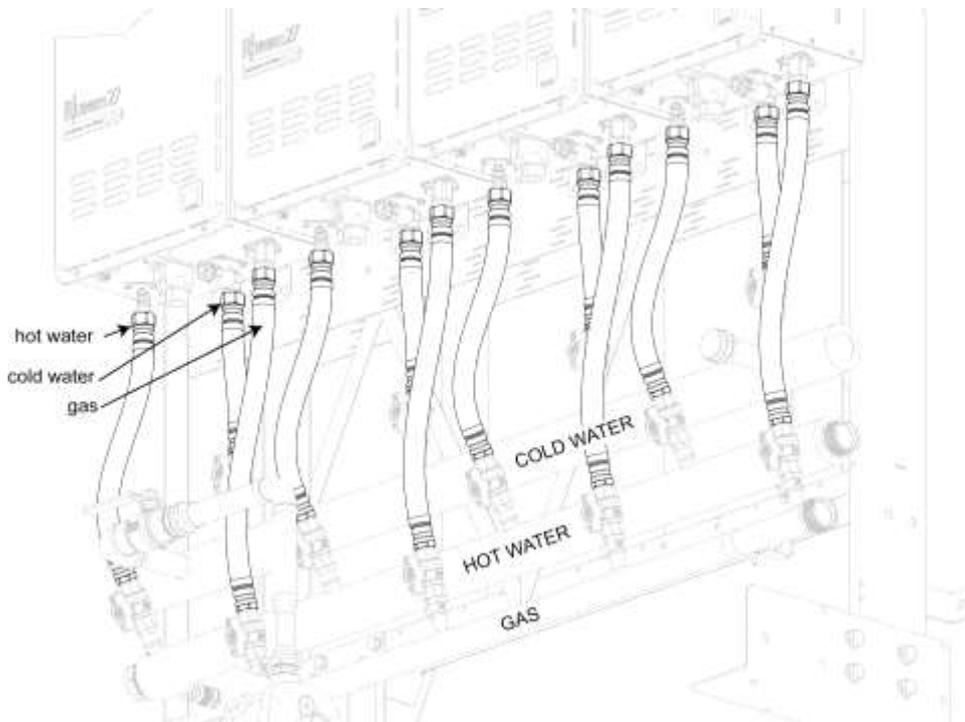

Figure 6
11. Reinstall the water and gas manifolds paying attention to their location. Refer to Fig. 6
14. Connect the flexible hose connectors to the gas units. Ensure all connections into the gas units are correct i.e. gas to gas (yellow handle), cold to cold (green handle) and hot to hot (red handle). Do not allow for any flexible connection hoses to be kinked or restrict water or gas flow in any way. Refer to Fig. 6